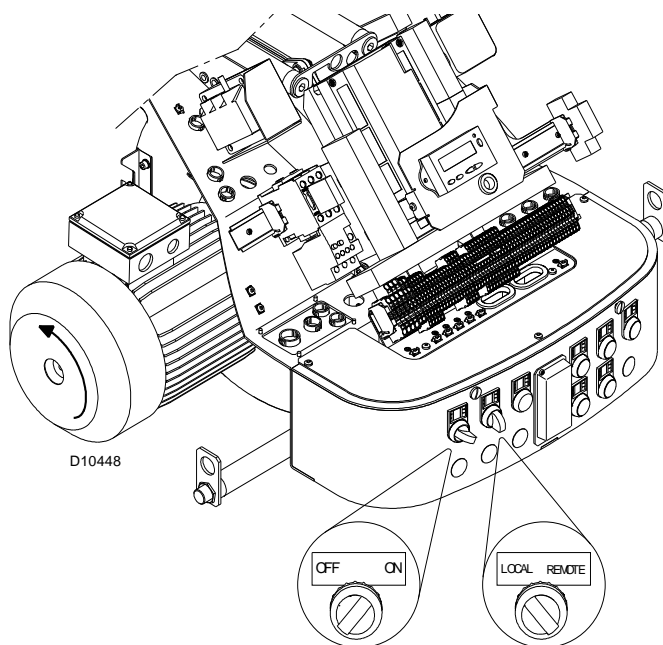

Fig. 33
Close the thermostats/pressure switches, set the parameters on the RWF 40 regulator. Please refer to the specific manual for this operation. Turn the switch of Fig. 33 to position “ON” and turn the switch of Fig. 33 to position “LOCAL”.
Make sure that the lamps or testers connected to the solenoids, or indicator lights on the solenoids themselves, show that no voltage is present. If voltage is present, stop the burner **immediately** and check the electrical wiring. When the burner starts, check the direction of the motor rotation, as indicated in Fig. 33.
- place the switch of Fig. 33 in position “0” and wait for the control box to carry out the switch-off phase;